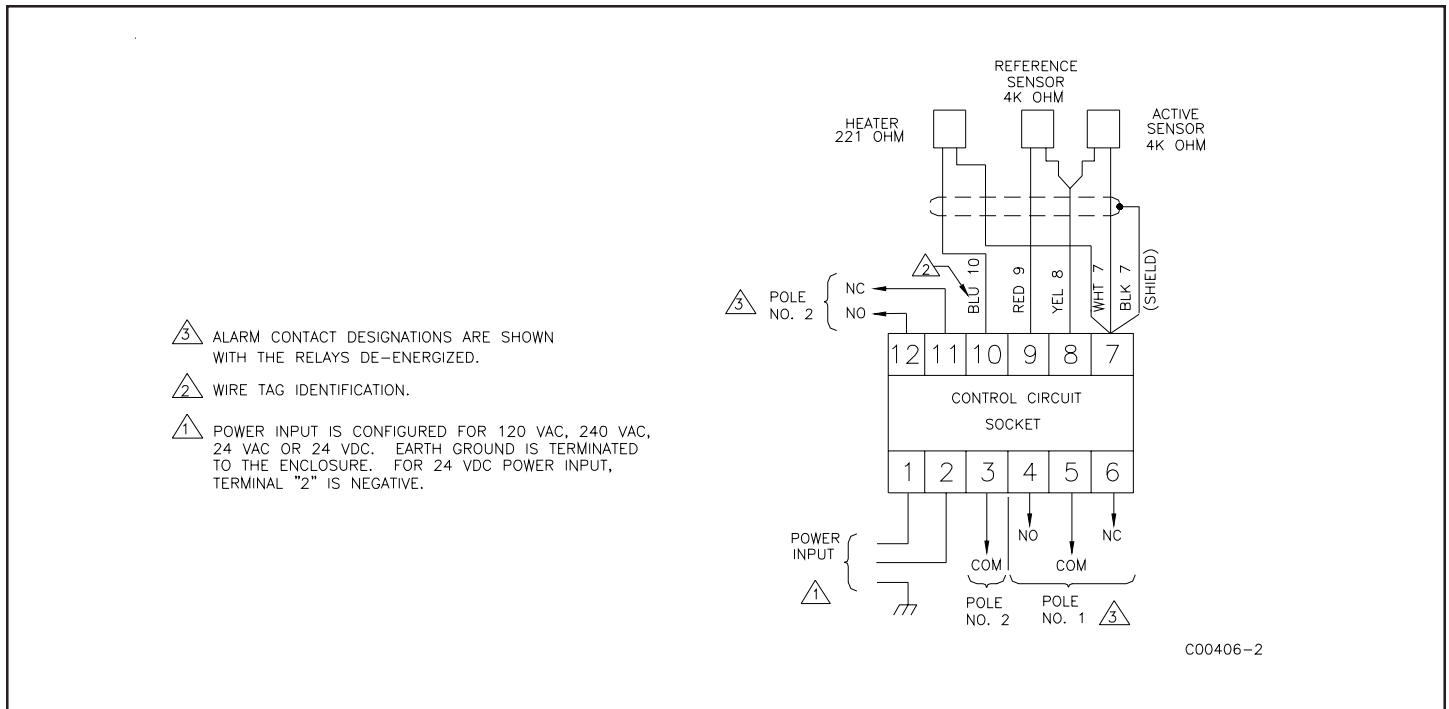

Figure 5 - Wiring Diagram
3. Measure the resistances as found in Table 2 to determine if the flow element is functional. The resistance is dependent on a temperature of 70°F (21°C). *Note: See Figure 5 for pin location.*